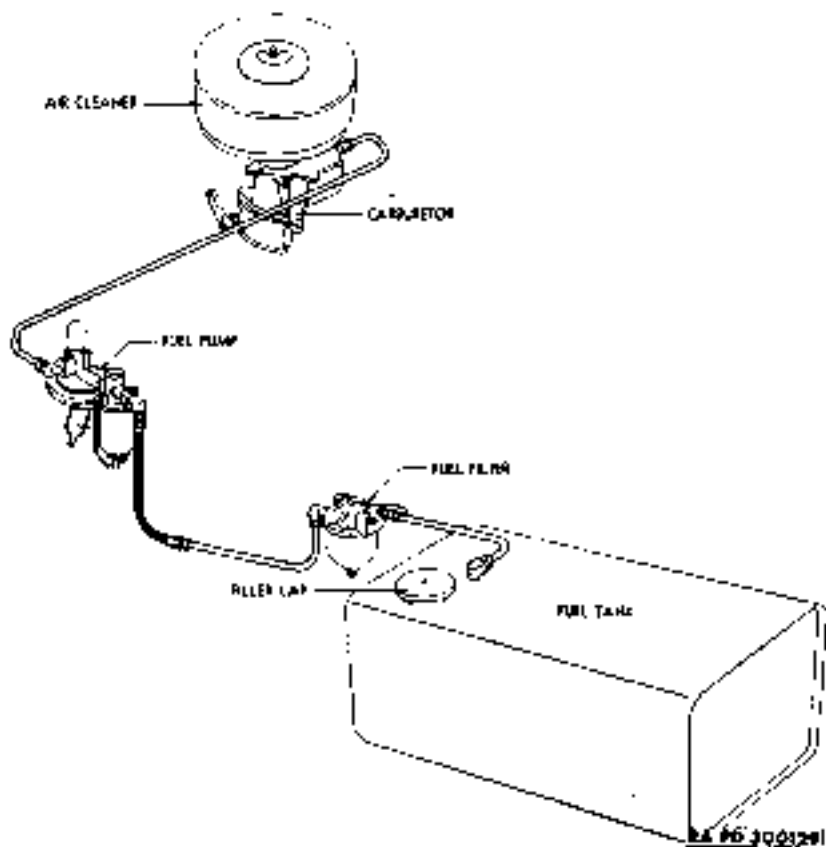

Figure 35--Fuel System Layout
a. **Description.** The fuel system consists of fuel tank, fuel filter, fuel pump, carburetor, governor, air cleaner, and interconnecting fuel lines (fig. 35). In addition to these units, an electrically actuated fuel gage system is provided.
a. **Description.** A metal line conducts the fuel from the tank through the filter to a connector located on the chassis side frame near the fuel pump. A flexible line leads from this connector to the fuel pump inlet fitting. Fuel from the pump to carburetor travels through a metal line (fig. 35).